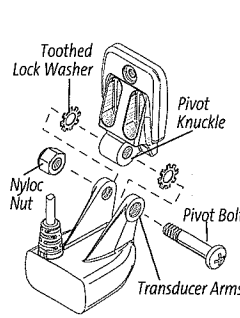

Figure 12
1. Attach the Single Piece mounting bracket (Figure 12) to the transducer body, using the 1/4"-20 x 1 1/4" Phillips head pivot bolt, the nyloc nut, and the two toothed lock washers.
2. Using a Phillips screwdriver and a 7/16" wrench, loosely tighten the pivot bolt (Figure 12). Do not completely tighten the assembly at this time, so the pivot angle can be adjusted later.
- Attach the Single Piece mounting bracket (Figure 12) to the transducer body, using the ¼"- 20 x 1¼" Phillips head pivot bolt, the nyloc nut, and the two toothed lock washers.
- Using a Phillips screwdriver and a 7/16" wrench, loosely tighten the pivot bolt (Figure 12). Do not completely tighten the assembly at this time, so the pivot angle can be adjusted later.